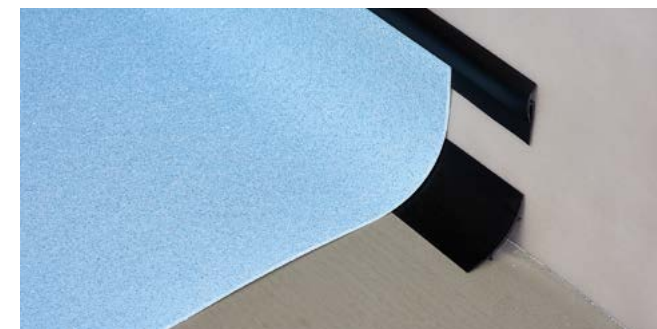

Figure 8 CS-N capping strips
3.13.1 Fitting Ejecta capping strip (type CS-N) Figure 8**KEY POINT**